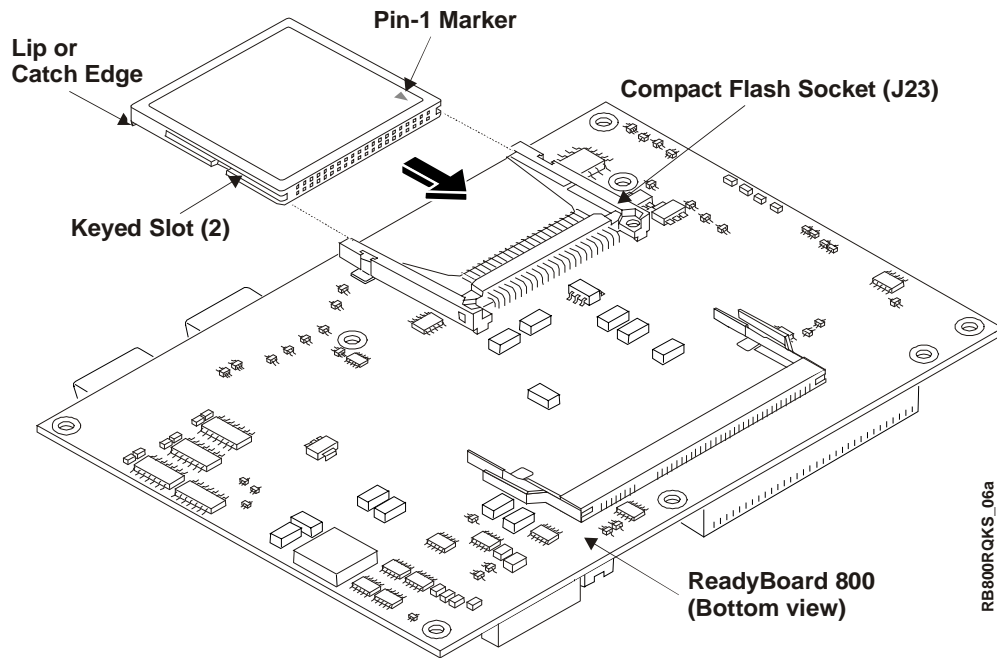

Figure 2-4. Installing the Compact Flash Card
4. Turn the ReadyBoard 800 over to access the bottom of the board and lay it on a flat anti-static surface. See Figure 2-4.
8. Push the compact flash card into the socket until it is firmly into the socket and mates with the pins. See Figures 2-4 and 2-5.